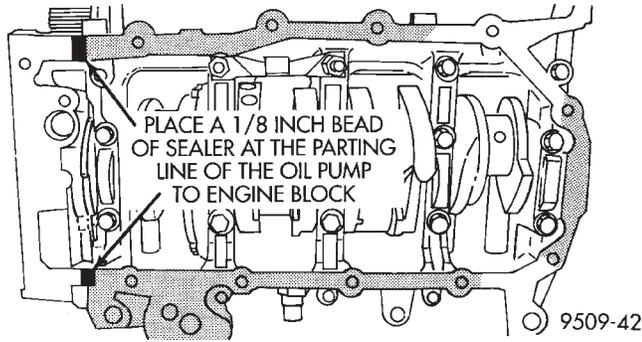

Fig. 52 Oil Pan Sealing
- (1) Apply Mopar Silicone Rubber Adhesive Sealant or equivalent at the oil pump to engine block parting line (Fig. 52).
- (2) Install a new oil pan gasket to pan.
- (3) Install pan and tighten screws to 12 N·m (105 in. lbs.).
- (4) Install oil filter and adaptor.
- (5) Install proper amount of oil. With oil filter 4.25 Liters (4.5 Qts.). Without oil filter 3.8 Liters (4.0 Qts.)